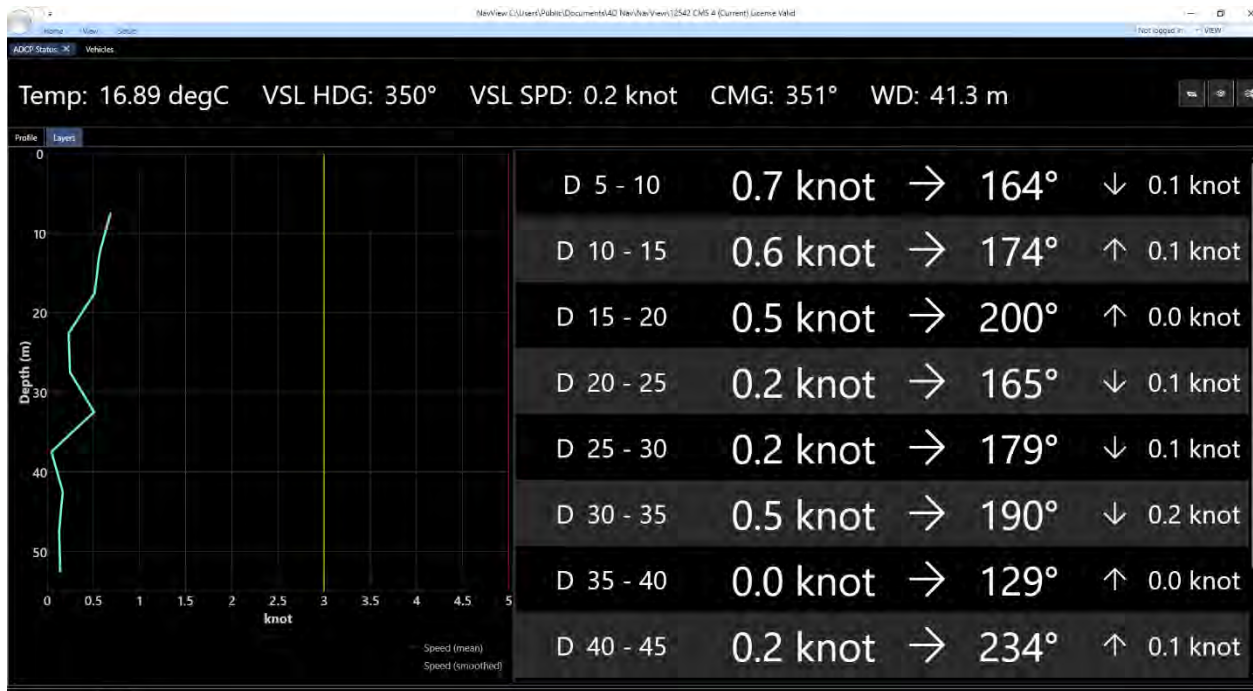

FIGURE 18-27 ADCP PROFILE WINDOW - LAYERS TAB
1. Select New ADCP Profiler from the ADCP section, View ribbon (see Figure 18-25) to view live profiles (see Figure 18-27)
- **Layers Tab:** On this view, the current magnitude vs depth is shown in the chart on the left, followed by a row for each layer in the calculation, on the right (see Figure 18-27).